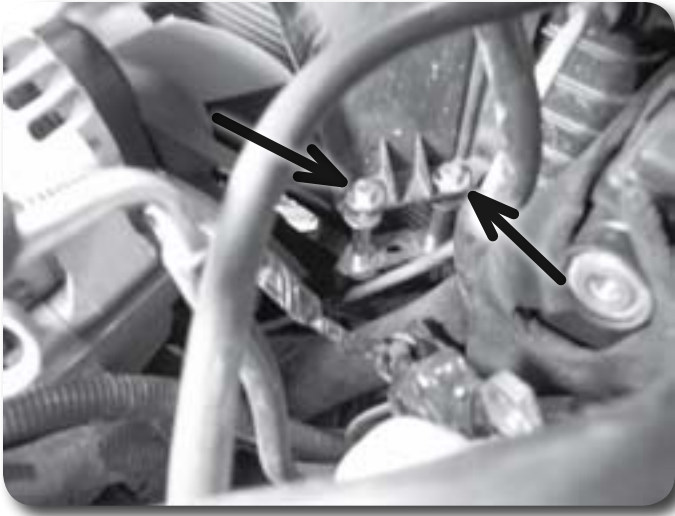

Figure 38
68. Attach the lower fan shroud to the upper fan shroud with four 2" steel spacers, four 3/8" x 3-1/2" bolts, nuts, and sixteen 3/8" USS washers. The washers mount on both sides of the shroud flange to "sandwich" the plastic **Figure 38**.